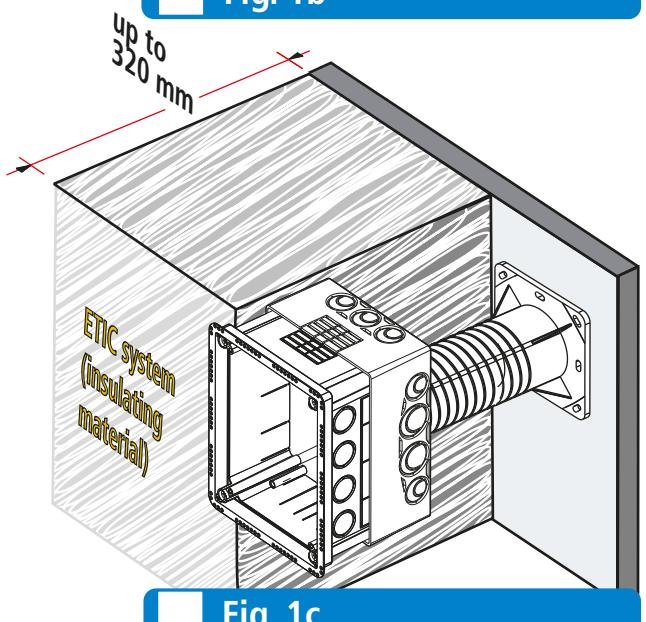

Fig. 1c
- Mounting the test joint box by means of an additional spacer (see Fig. 1c)